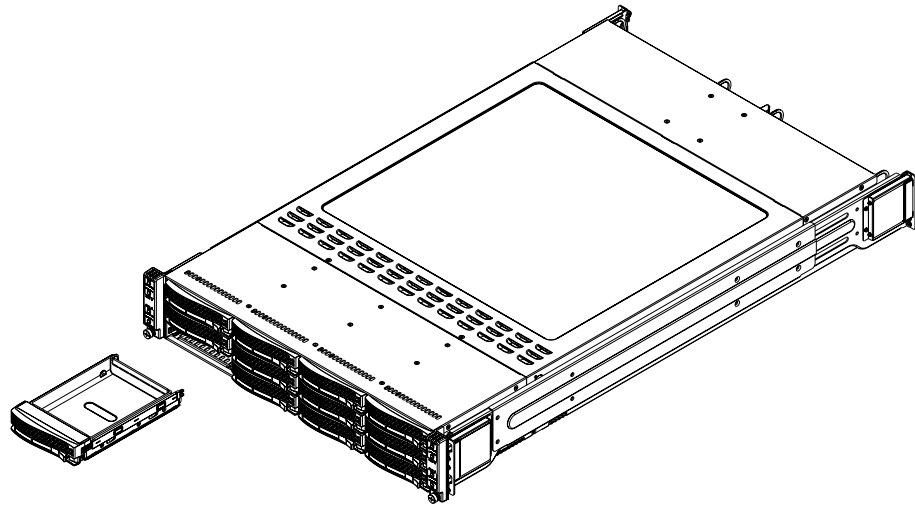

Figure 6-4 Removing a Disk Drive Carrier
2. Swing the handle fully out and use it to pull the drive carrier straight out (see Figure 6-4).